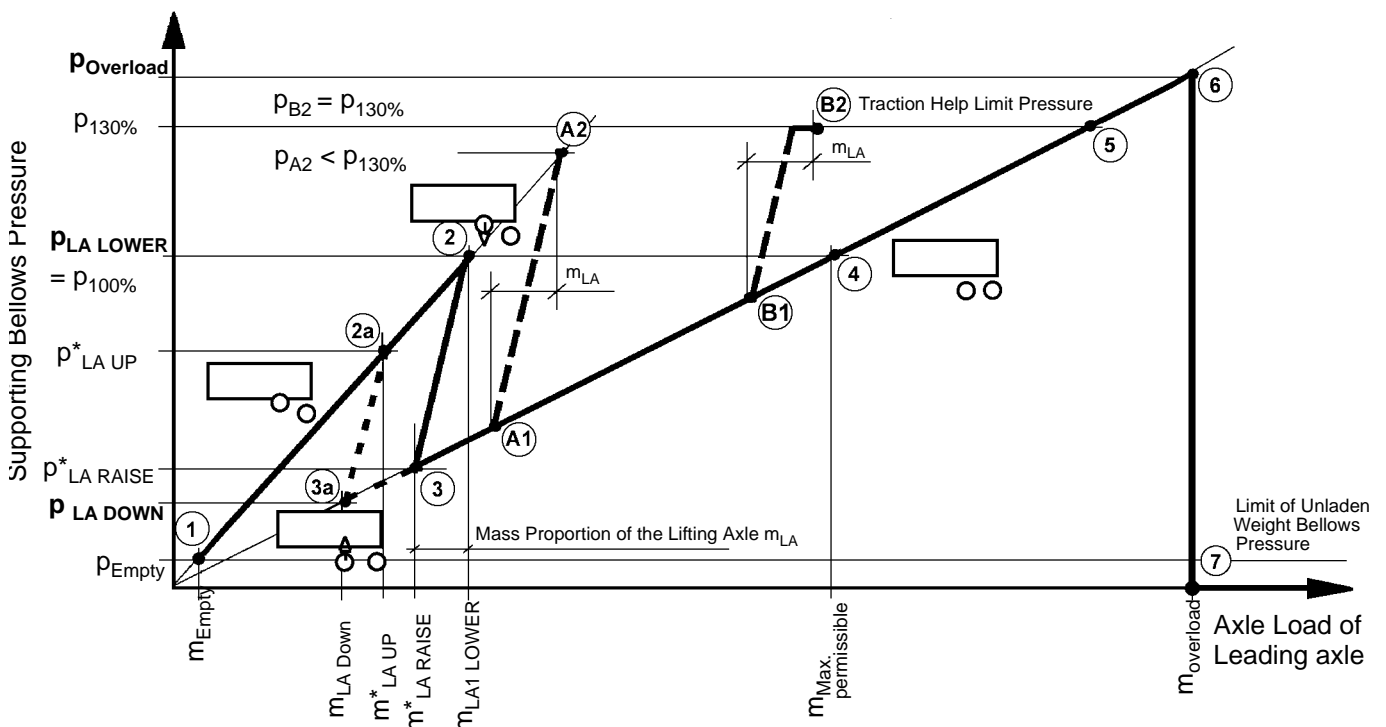

Fig. 3 Lifting Axle Function for Trailers with one Lifting Axle
The thick line in the diagram (Fig. 3) shows the curve for the supporting bellows pressure on the trailer's leading axle as a ratio of the trailer's load. As the trailer is being loaded or unloaded, this line passes through different important points. Some of the pressures in the supporting bellows on the leading axle have to be stored in the ECAS system as part of the procedure for setting the parameters. Other pressures are the result of reactions of the lifting axle and can thus not be influenced - such pres-
For the purposes of the comments below, please imagine a tanker semi-trailer or trailer would be continuously filled with, or drained of, a liquid (↓ Fig. 3).
These setting pressures are pointed out in fig. 3.
Generally the traction help facility can be used only if the pressure in the supporting bellows as shown in the fig. 3 between (3a) and (6) can be associated. That means that the lifting axle must be down. The description follows the requirements of EC Guideline 97/27/EC (EC 97/27).
Fig. 3 uses two examples, starting at Points (A1) and (B1), to show how the traction help works for the different load conditions.